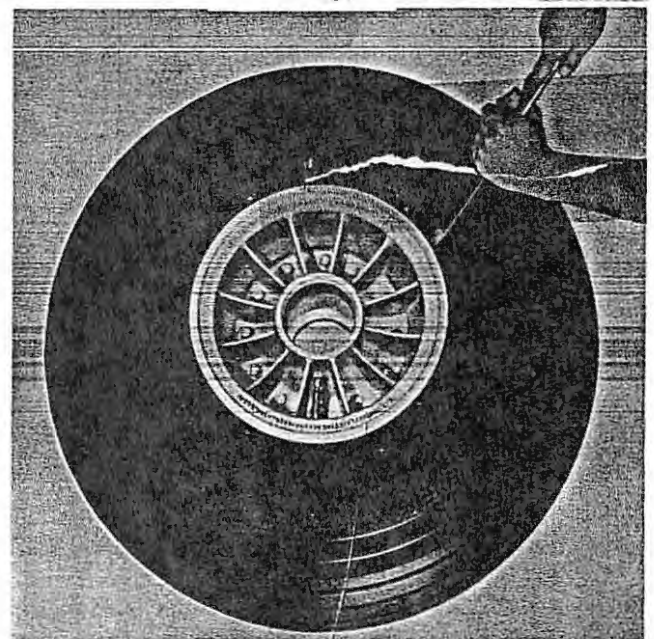

Figure 2-55. Dismounting Tire
- l. Break bead loose from rim with a suitable set of tire tools and a rubber mallet (figure 2-55).